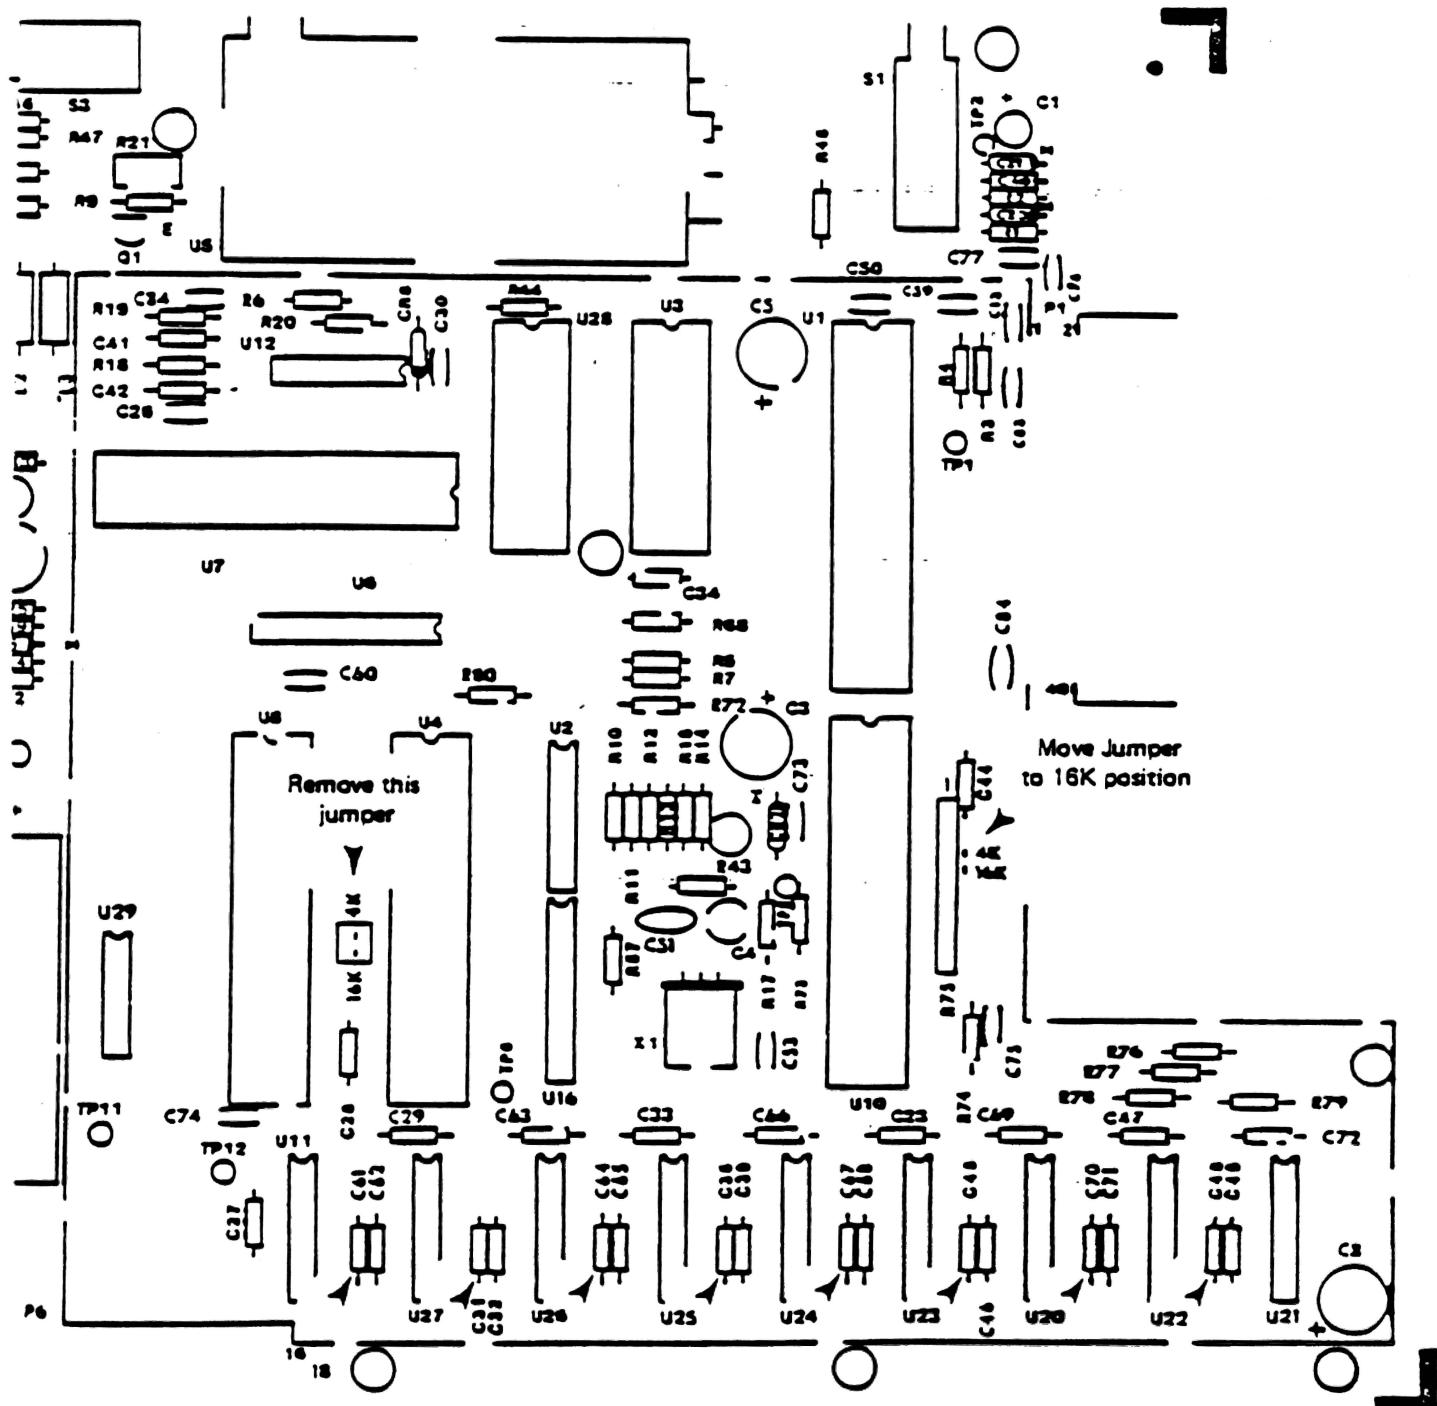

FIGURE 1
- 9) Remove capacitors C61, C31, C64, C35, C67, C45, C70, C48. Refer to Figure 1 for their locations.